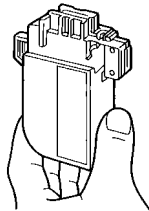

Figure 1-29
- Hold the ink cartridge as shown in Figure 1-29.